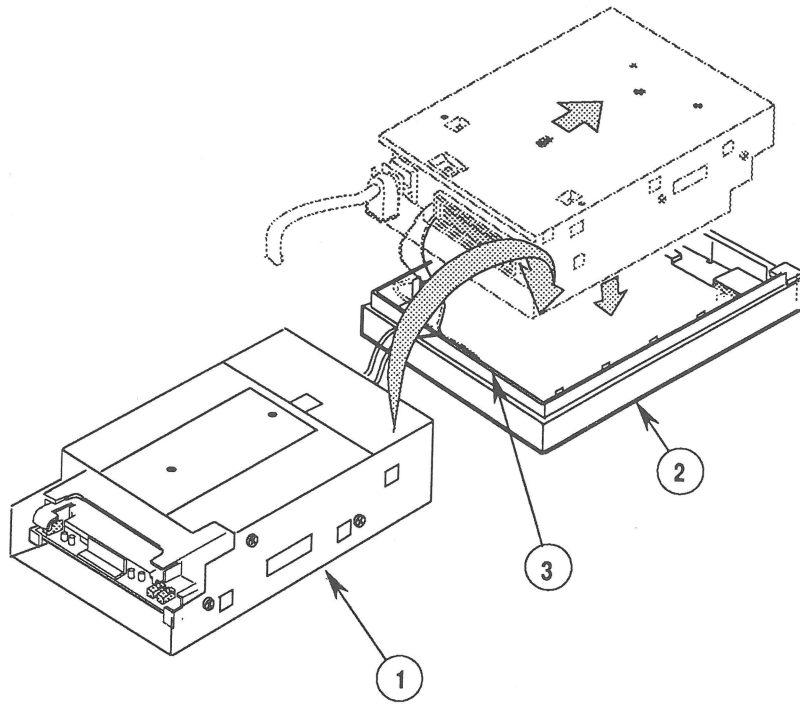

FIGURE 5
2. Flip the drive assembly (Figure 5, #1) over and place it upside down in the case top (Figure 5, #2). Place the drive assembly with its metal mounting tabs flush against the back edge (Figure 5, #3) of the case top.